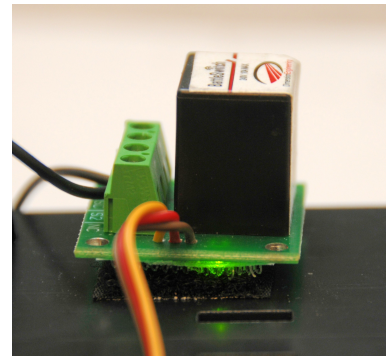

FIG. 3
- ✓ The Burn Control Board **(see FIG. 3)** has a FLASHING GREEN LED
3. To test your Burn-Down device, flip the TRAINER switch to the DOWN POSITION. The green LED on the Burn Control Board (see FIG. 3) should be turned on and solid (not blinking). You can hear an audible “click” sound coming from the Burn Control Board when you trigger the device.